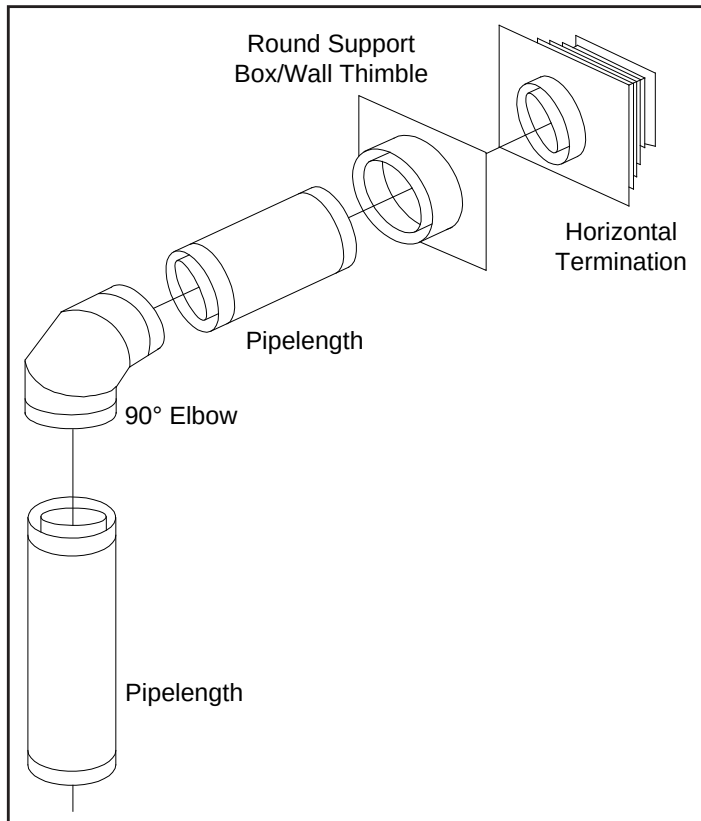
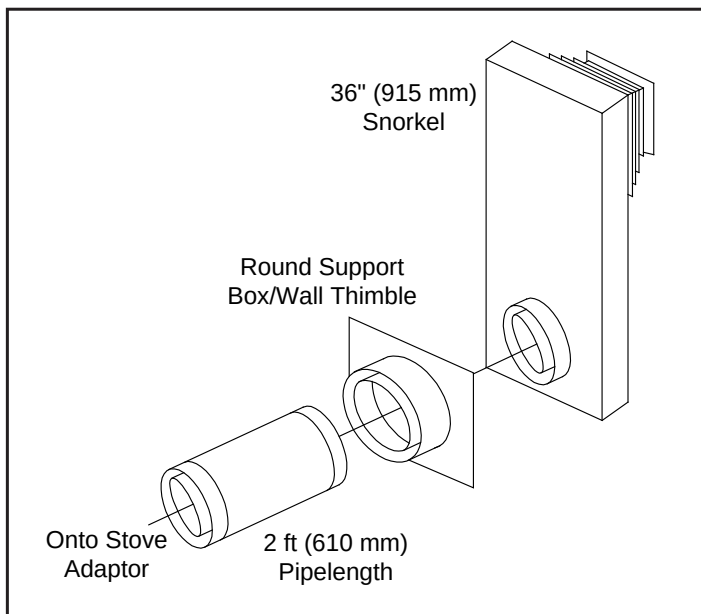
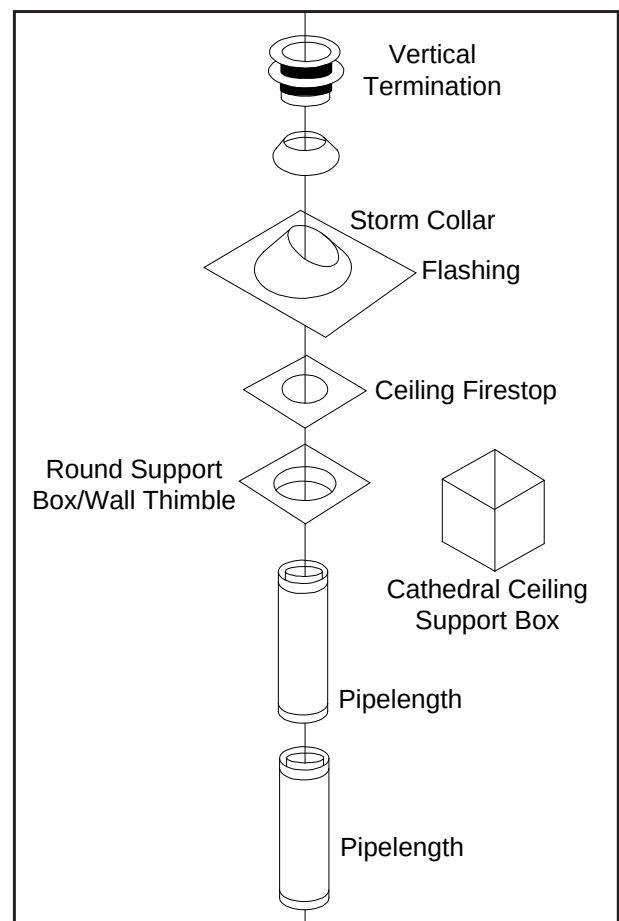

Figure 29: Common Horizontal Installation.
Figure 31: Common Snorkel Installation.
Figure 30: Common Vertical Installation.
There are three (3) permitted types of Direct Vent System installations: horizontal (Figure 29), vertical (Figure 30) or snorkel (Figure 31).